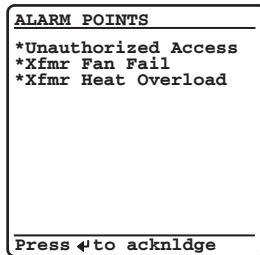

Figure 16 Sample Alarm Points Screen
*Figure 16* shows a sample alarm points screen. The relay is capable of displaying as many as 66 alarm points. The relay automatically displays new alarm points while in manual-scrolling mode and in autoscrolling mode. The alarm point messages are assigned using SER Points settings. The asterisk next to the alarm point indicates an active alarm. The inactive alarms can be acknowledged and cleared using the front-panel navigation buttons.